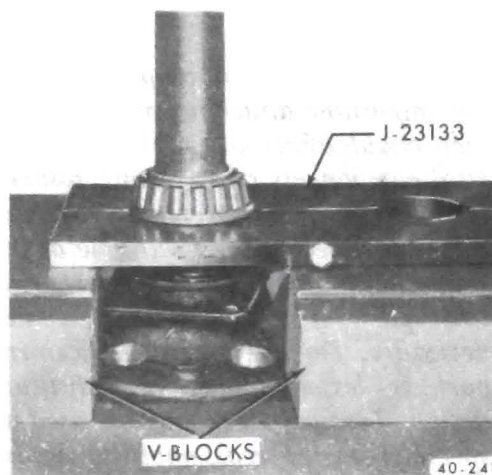

Figure 40-91 Removing Axle Shaft Bearing (43-44000)
2. Press axle shaft bearing off using Plate J- 23133 for 43-44000 Cars. An arbor press may be used or a set-up may be made using Ram and Yoke Assembly with Adapter J-6525-01 and puller J-21579. See Figure 40-91. Remove LeSabre axle shaft bearings using puller plate J-8621.